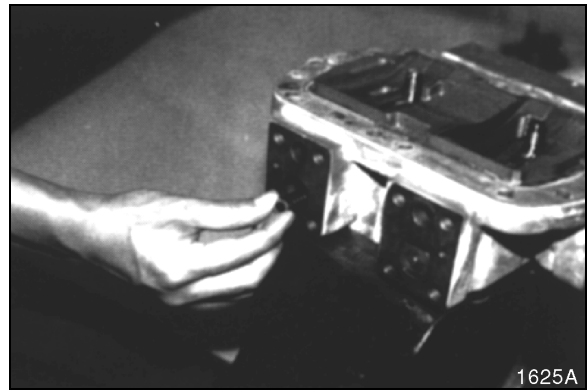

Figure 32
5. Remove shim and measure thickness with caliper. See Figure 32.